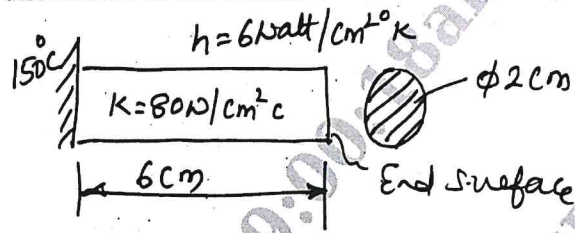

Fig Q8(a)
- 8 a. Find the temperature distribution in one dimensional fin shown in Fig Q8(a)